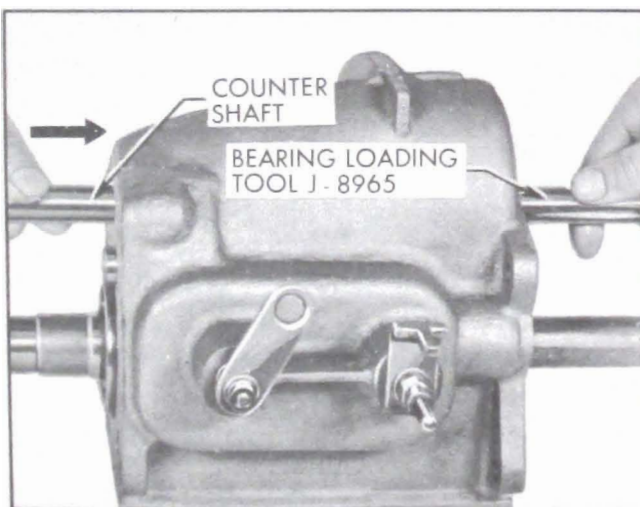

Figure 4-31—Installing Counter Shaft
13. Turn transmission upside down on bench to allow counter gear and loading tool assembly to drop to normal position. Align bore in counter gear with bore in transmission case and install counter shaft through rear of case with lock plate slot facing reverse idler shaft. Leave counter shaft projecting approximately $1/16$ " from fully installed position. See Figure 4-31.